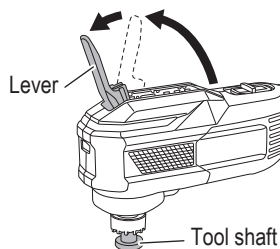

Fig. 8
- (1) Pull the lever up. (Fig. 8)
- (2) Fully open the lever to the position shown in the figure.